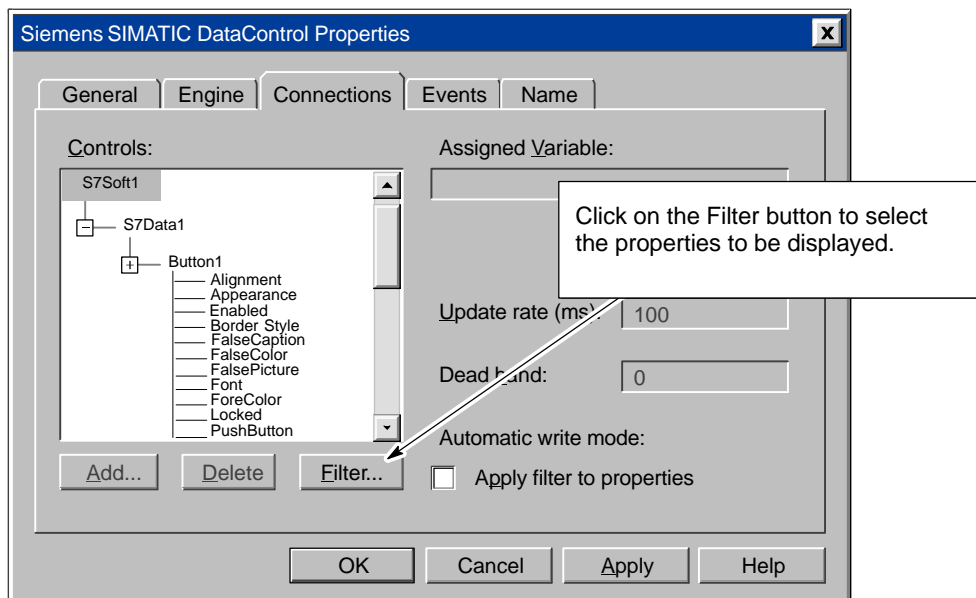

Figure 1-6 Using the Filter Button
4. As shown in Figure 1-6, click on the Filter button.